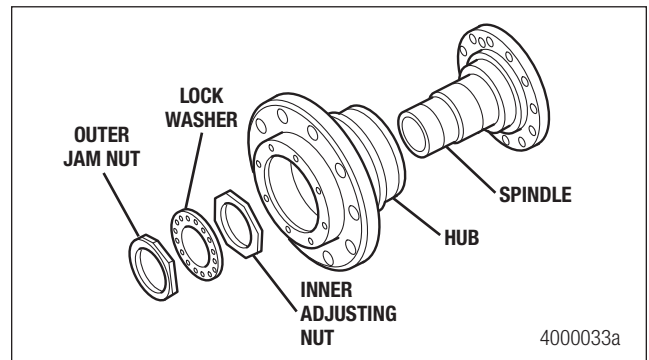

Figure 9.2
8. Remove the outer jam nut and lock washer from the spindle. Figure 9.2.